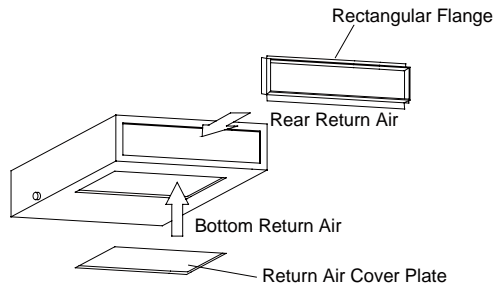

Fig.37
- (2). The default installation location of the rectangular flange is at the back and the return air cover plate is at the bottom, as shown in Fig.37 .